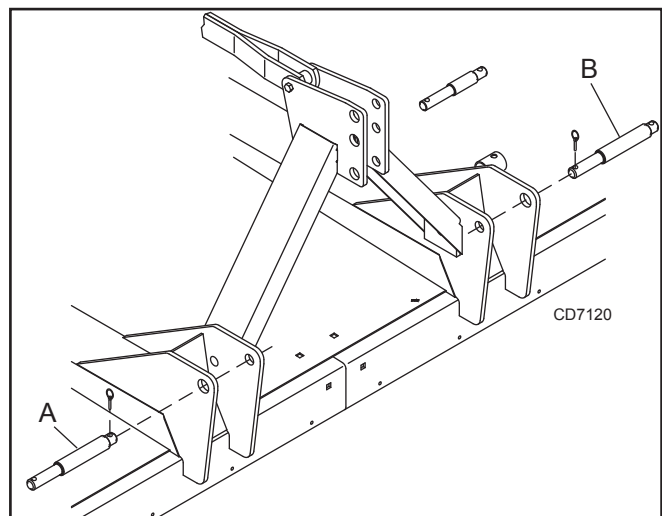

Figure 2. 3-Point Mounting Positions
2. Insert lower hitch pins to Position B, Figure 2, through mast plates and tractor lower lift arms.
2. Insert lower hitch pins to Position A, Figure 2, through mast plates and tractor lower lift arms.
1. Position lower hitch pins to Position A, Figure 2.